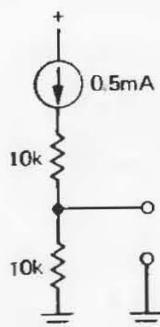

Figure 1.107
- (2) Find the Thévenin equivalent for the circuit shown in Figure 1.107. Is it the